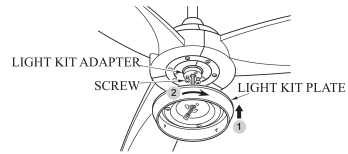

FIG. 15
2. Gently pull the wire through light kit plate. Align the three holes on light kit plate with light kit adapter. Then, tighten back the screws removed previously. (See fig.15&16)